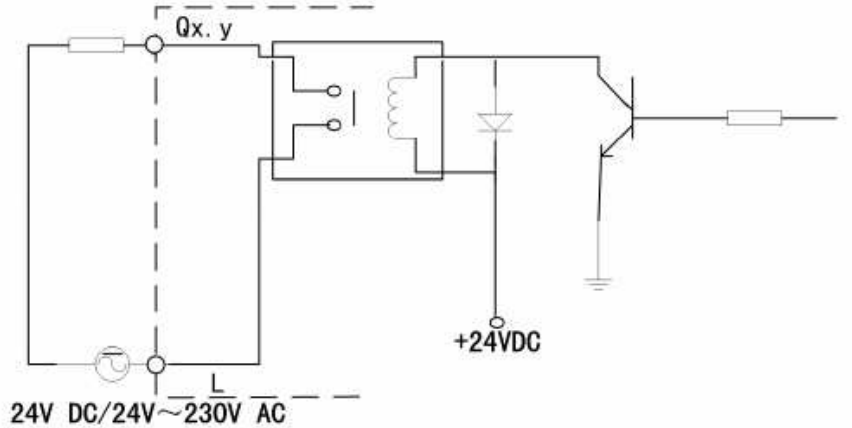

Figure 2.3.2 LM3105 Output Channel Equivalent Circuit
- ◇ LM3105 output channel (DO) equivalent circuit shown in Figure 2.3.2.